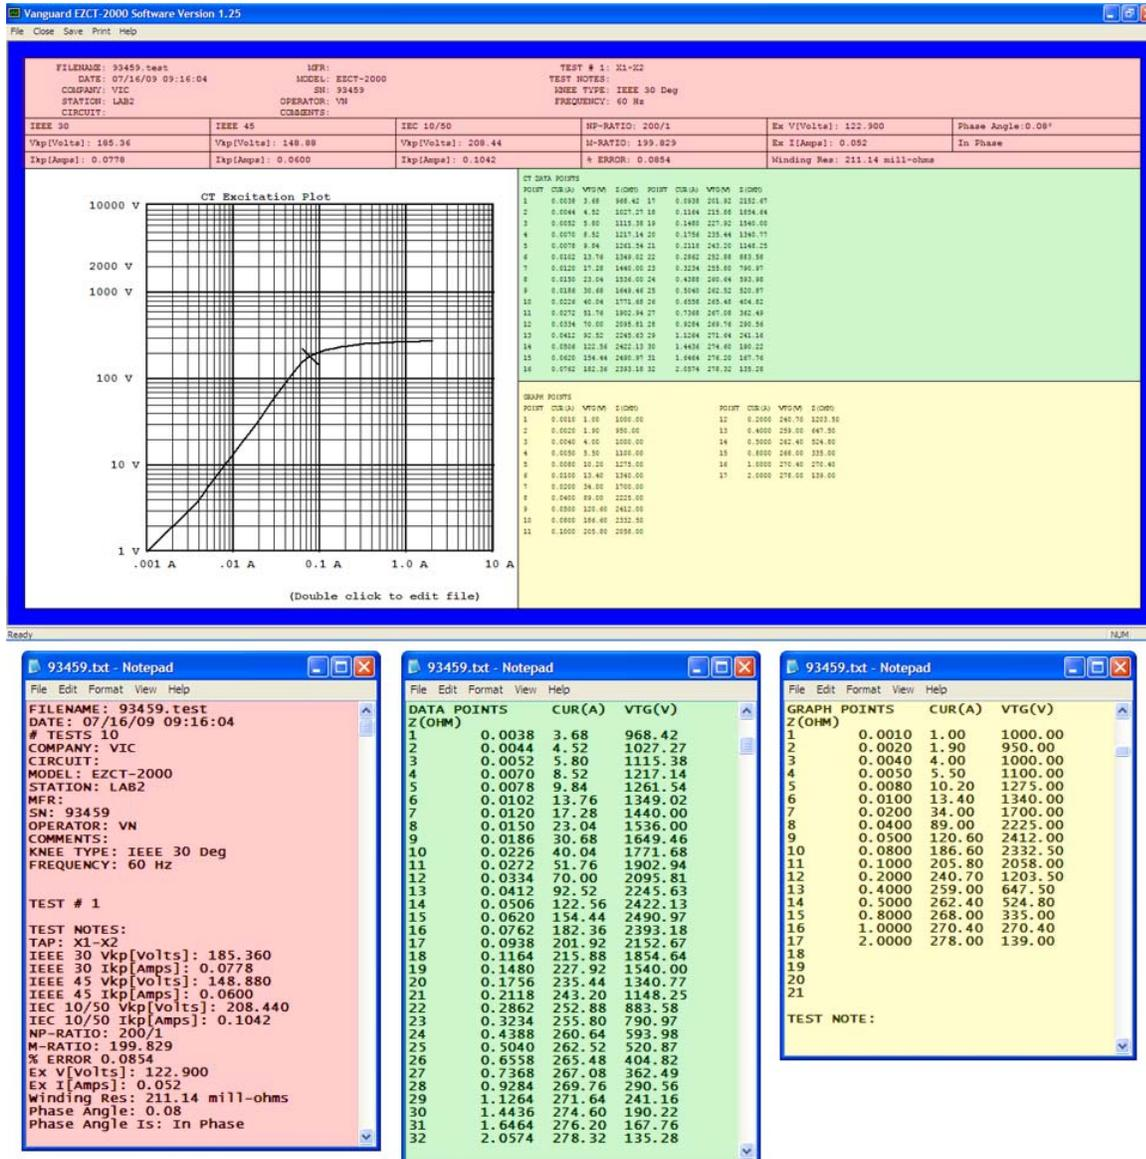

Figure 2. Test Record in EZCT-2000 Software and in Plain Text Format
- Browse to the folder where you would like the text file(s) to be saved and click on the "OK" button. Figure 2 shows a test record in the EZCT-2000 software compared with the exported data in plain text format.